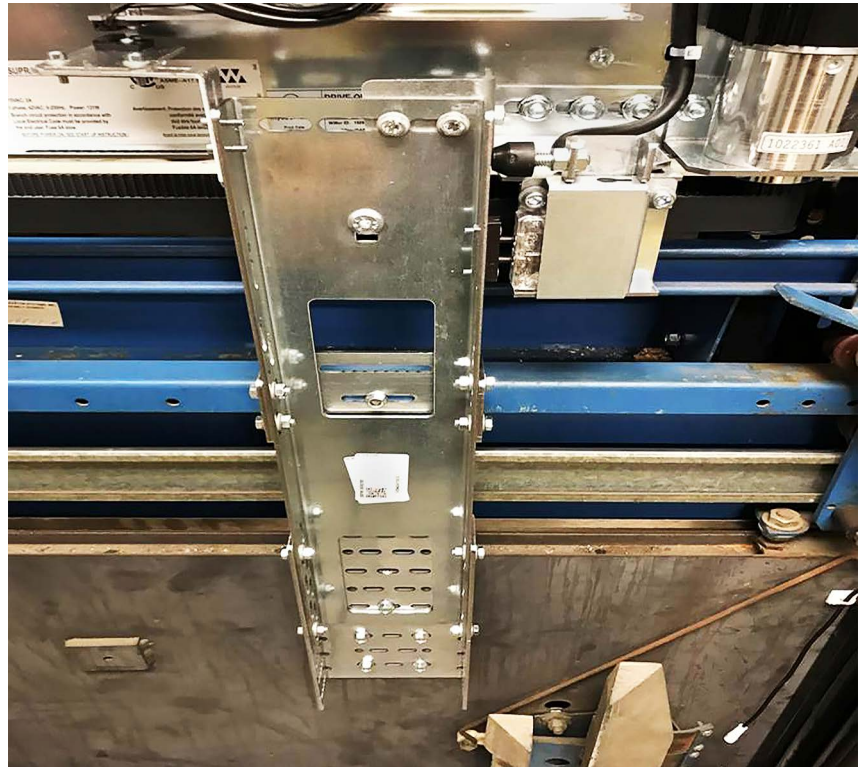

Figure 10 - Pin the Drive Arm/Completed Belt Installation
- e. Verify that the belt installation looks the same as Figure 10 on page 15.